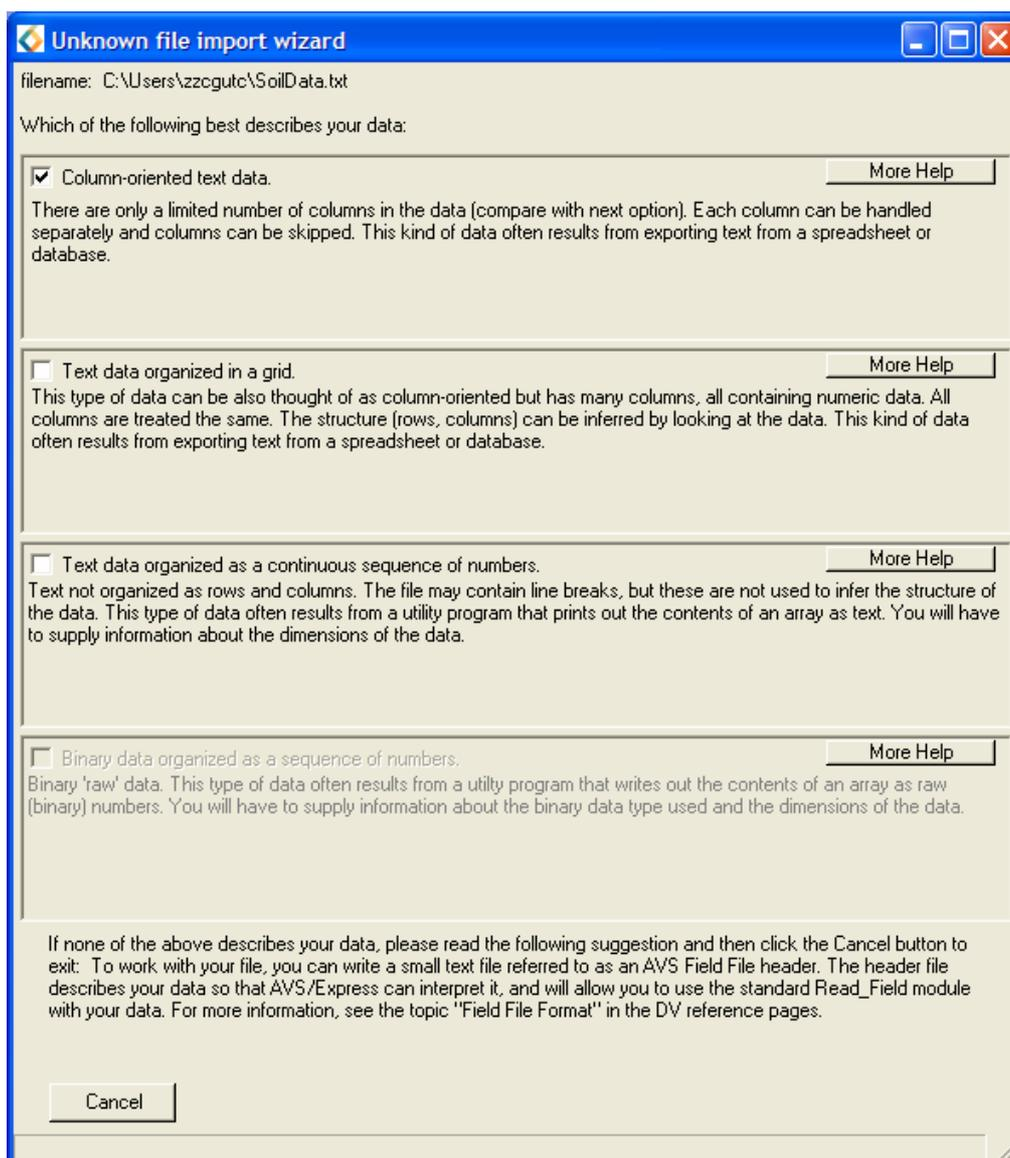

Figure C.23: Unknown File Import Wizard
- Select **Continue >>** and the **Unknown file import Wizard**4 window will appear as shown in Figure C.23.
4 The file extension “.txt” is unknown to AVS/Express. The data must be defined manually using the **Unknown file import wizard**. The wizard (Figure C.23) contains options and short descriptions. The data must be known and understood in order to select the correct option.